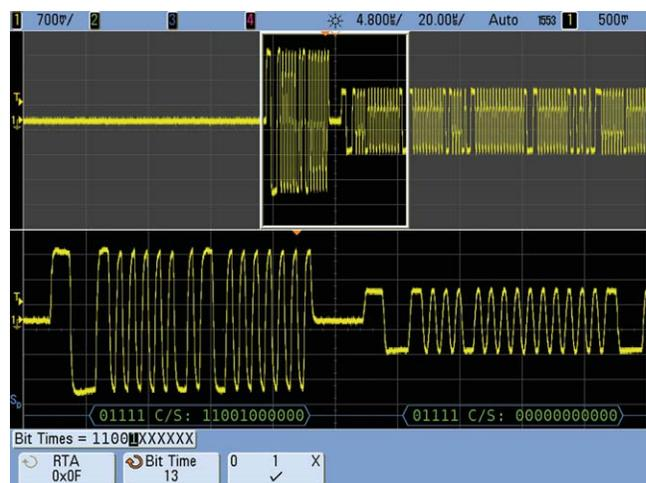

Figure 3. Triggering on a Command Word with a transmit data instruction.
Figure 3 shows an example of triggering on a Command Word with an RTA of 15dec (0F_{HEX}), transmit/receive bit set high, and with a sub-address equal to 17dec (0F + 1 10001 XXXXX). With this combination of “RTA + 11 Bit” triggering, the scope triggers on the desired Command Word that is requesting data from a specific remote terminal. In this case, we can see that a Status Word from a remote terminal (RT) follows this particular Command Word as expected.